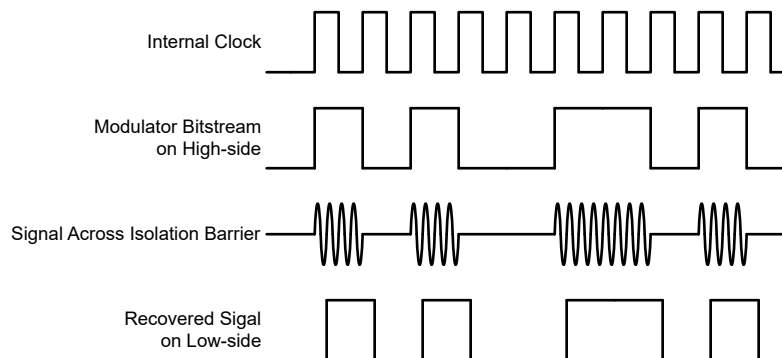

Figure 7-1. OOK-Based Modulation Scheme
As shown in Figure 7-1, the AMC0x02D-Q1 uses an on-off keying (OOK) modulation scheme to transmit the modulator output bitstream across the SiO₂-based isolation barrier. The transmit driver (TX) is illustrated in the Functional Block Diagram. TX transmits an internally generated, high-frequency carrier across the isolation barrier to represent a digital *one*. However, TX does not send a signal to represent a digital *zero*. The nominal frequency of the carrier used inside the AMC0x02D-Q1 is 480MHz.